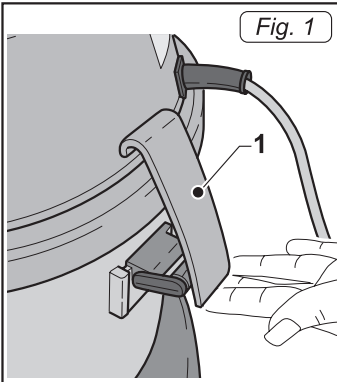
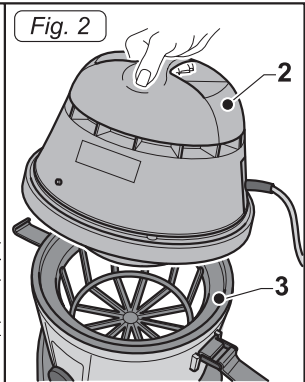

Fig. 1
Fig. 2
- Release the levers (1 Fig. 1) and remove the cover (2 Fig. 2) complete with the motor unit.
- Replace the cover and lock it using the levers (1 Fig. 1).